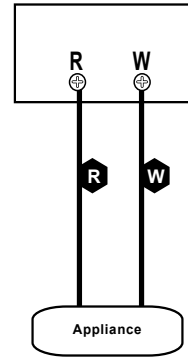

Figure 26.2
5. Connect your thermostat wire to the W and R terminals (**Figure 26.2**).